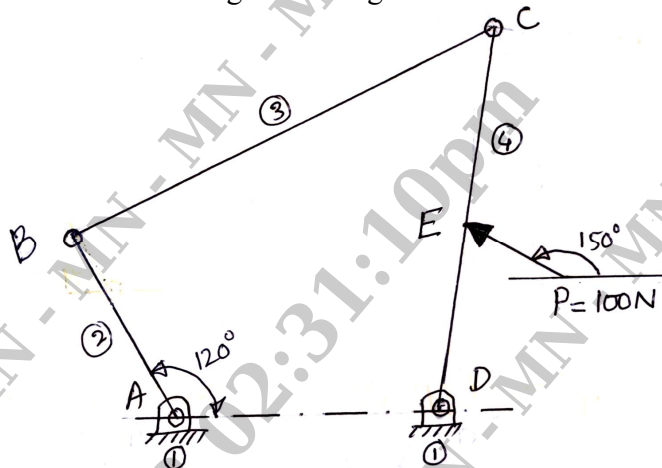

Fig.Q1(b)
- b. A four-link mechanism with the following dimensions is acted upon by a force 100 N $\angle 150^\circ$ on the link DC [Fig.Q1(b)]. AD = 500 mm, AB = 400 mm, BC = 900 mm and DC = 750 mm, DE = 350 mm. Determine the input torque T on the link AB for the static equilibrium of the mechanism for the given configuration.